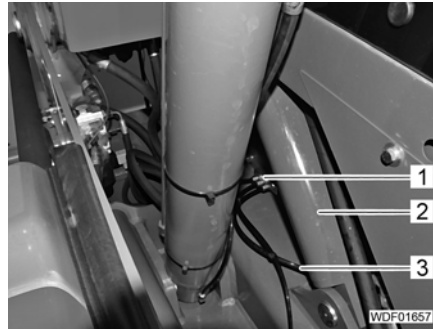

Fig. 283 Lubrication line connection
- Unscrew lubrication line (Fig. 283,3) from the compensating cylinder (Fig. 283,2).
- ▷ Pay attention to the connections and lines of the remote lubrication system (Fig. 283,1) while removing the compensating cylinder.
- ▷ Pay attention to the connections and lines of the remote lubrication system (Fig. 283,1) while inserting the compensating cylinder.
- Carefully insert compensating cylinder (Fig. 283,2) from above into the frame so that the bottom bolt retainers are exactly aligned.
- Attach lubrication line (Fig. 283,3) and tighten union nut.